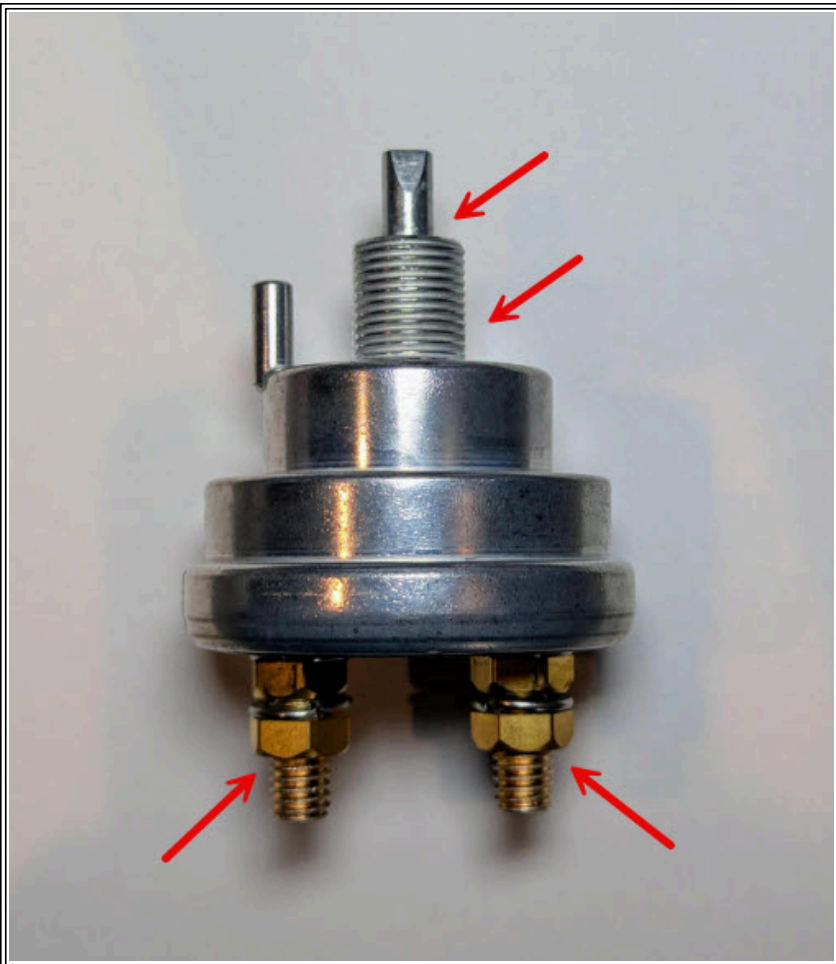

Figure 1: Locations of dielectric grease application
2. Apply a liberal amount of dielectric grease to the locations called out in **Figure 1**.